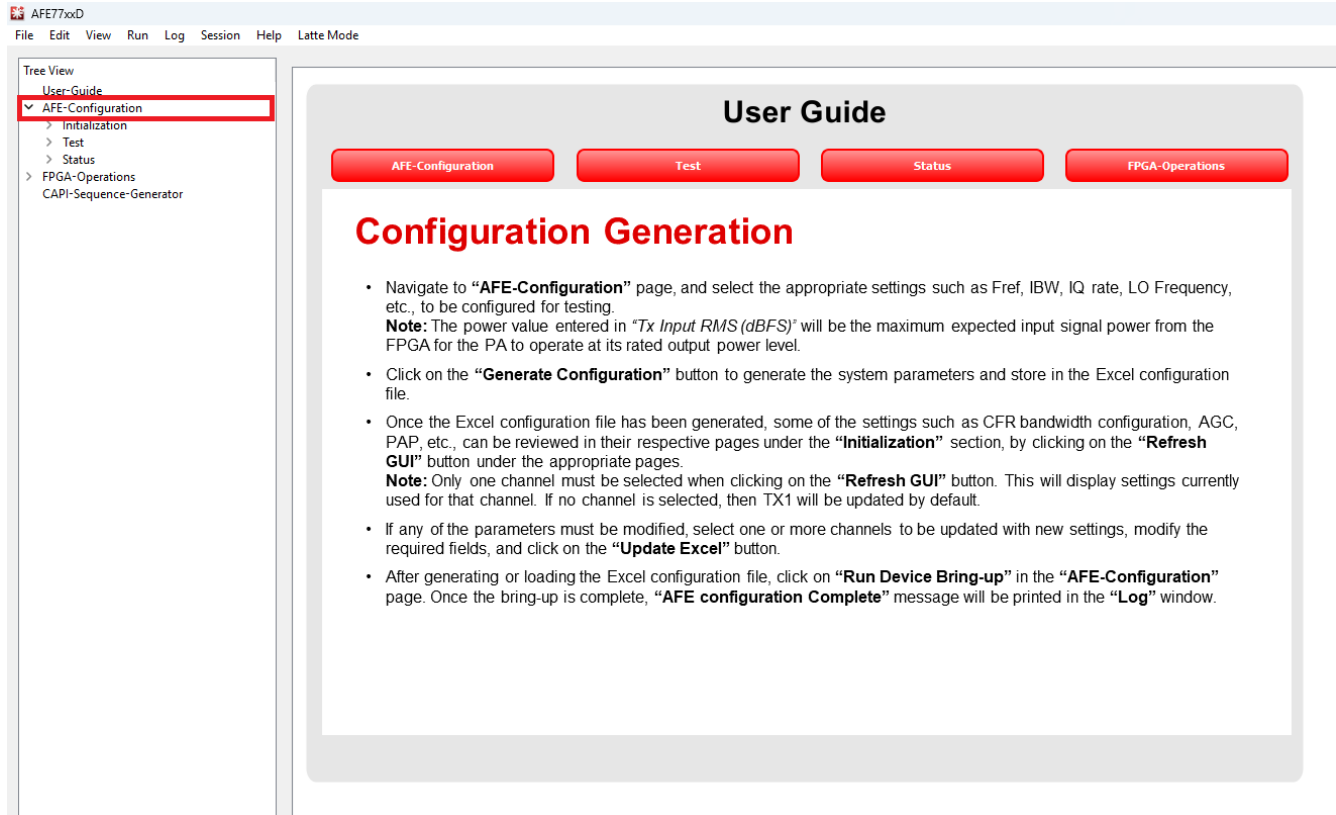

Figure 3-9. User-Guide, AFE77xxD Latte Software
- Wait until the GUI loads to the User Guide window, as shown in Figure 3-9. Click the *AFE-Configuration* tab under the tree view on the left for the main parameters screen.